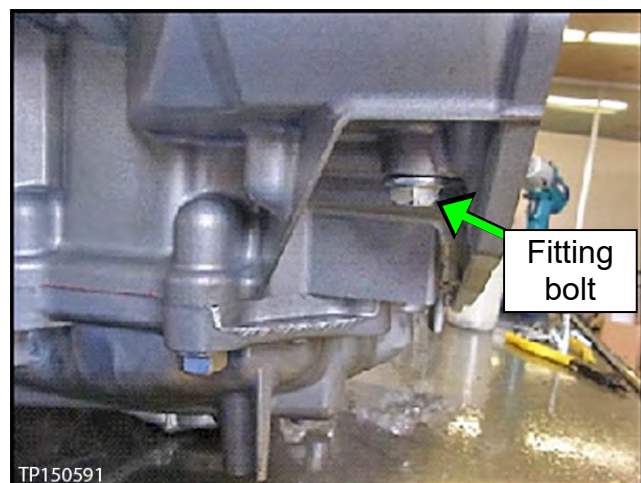

Figure 62
43. Install the fitting bolt finger tight (Figure 62).